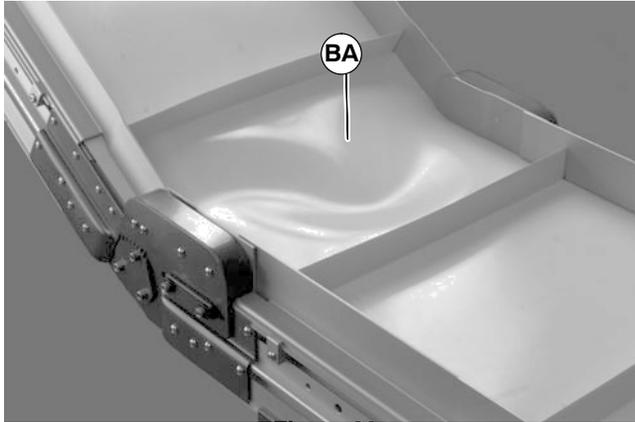

Figure 39
**NOTE:** Bowing of the belt (BA of Figure 39) may occur if excessive tension is applied to the belt. Do not over tension the belt.